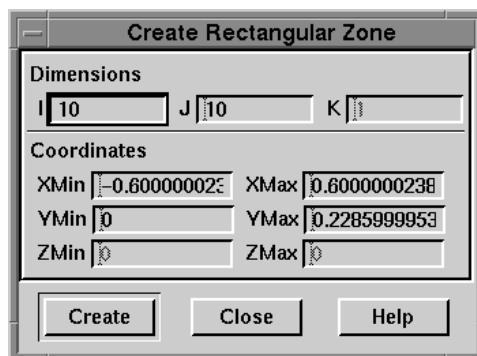

Figure 25-7. The Create Rectangular Zone dialog.
3. Drag until the boundary of the zone is as desired, then release. The Create Rectangular Zone dialog appears (see Figure 25-7) with the X and Y extents for the rectangular zone already filled in. You can adjust the I- and J-dimensions and the X- and Y-coordinates.
1. From the Data menu, choose Create Zone, then Rectangular. The Create Rectangular Zone dialog appears, as in Figure 25-7.